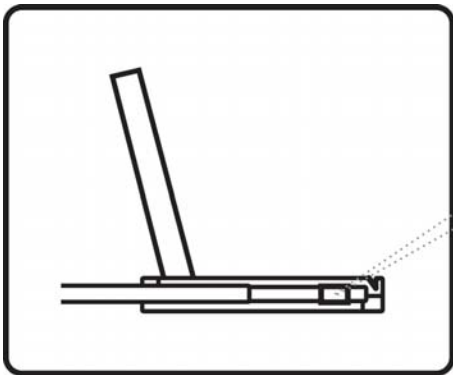

Figure 1
- A black arrow release button is located on the outside of each slide. (shown in **Figure 1**).